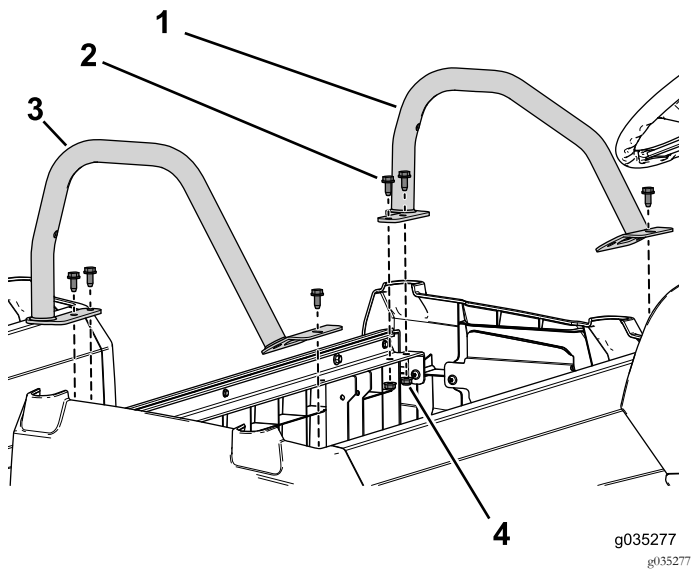

Figure 97
7. Use the 6 flange bolts (3/16 x 3/4 inch) and flange nuts to secure the left and right hip restraints to the seat base (Figure 97).